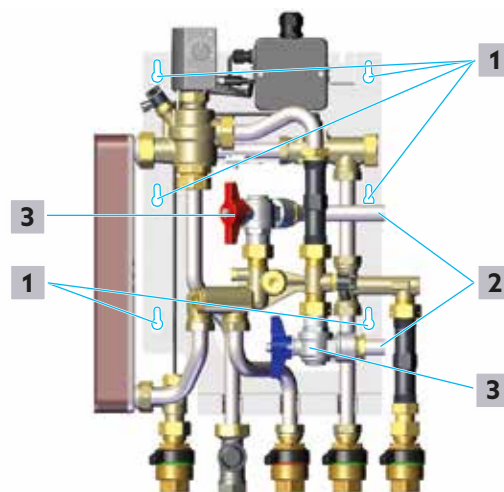

Fig. 9: Wall mounting
- 3 Select at least two of the six possible fastening points (see Fig. 9 on page 17 (1)) and mark the drill holes through the bore holes in the base plate.
Position the angle ball valves so that the supply pipes (see Fig. 9 on page 17 (2)) can be routed to the dwelling station from the desired direction.
- 7 Mount the two angle ball valves (see Fig. 9 on page 17 (3)) with flat seal in an orientation that is easily accessible for further connection. (The figure shows an example of the connection from the right side)